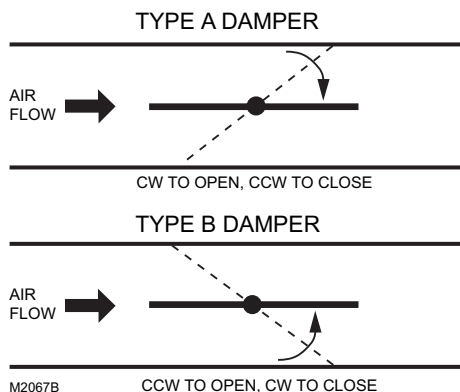

Fig. 3. Determining the rotation direction (CW or CCW) for damper opening.
Determine the damper rotation and opening angle prior to installation. See Fig. 2 below and Fig. 3 on page 4 for examples.
3. Determine the direction the damper shaft rotates to open the damper (CW or CCW) (see Fig. 3). Typically, there is an etched line on the end of the damper shaft that indicates the position of the damper. In Fig. 2, the indicator shows the damper open in a CW direction.